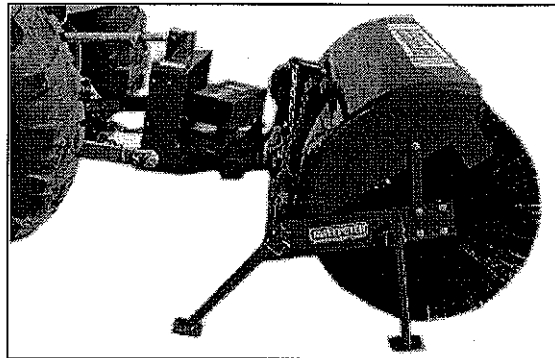

figure 5
9. Position the brush head assembly behind the mounting assembly (figure 5).